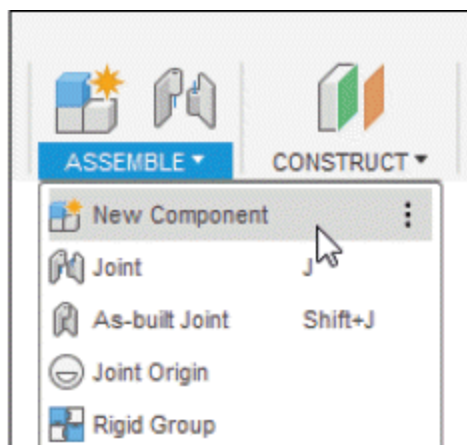
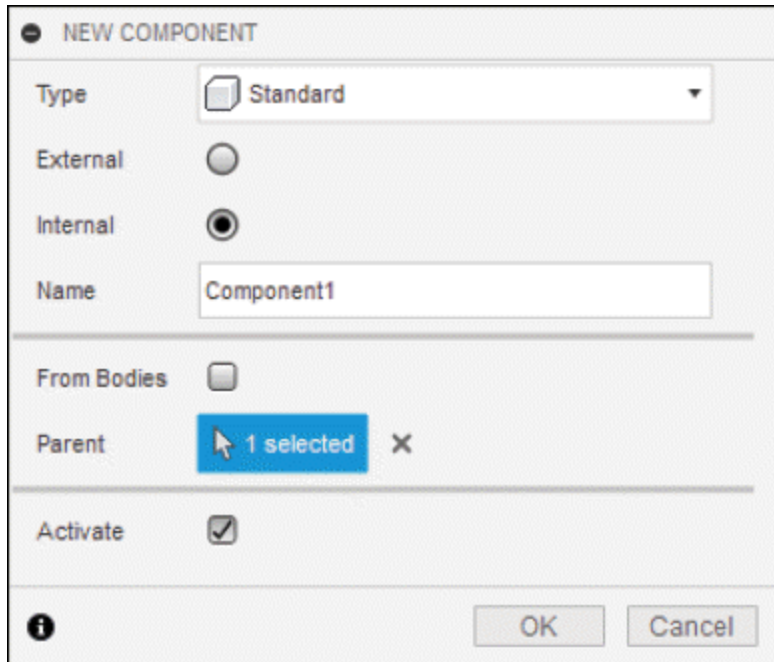

Figure-1. New Component tool
Figure-2. NEW COMPONENT dialog box
- Click on the **New Component** tool of **ASSEMBLE** drop-down from **Toolbar**; refer to Figure-1. The **NEW COMPONENT** dialog box will be displayed; refer to Figure-2.